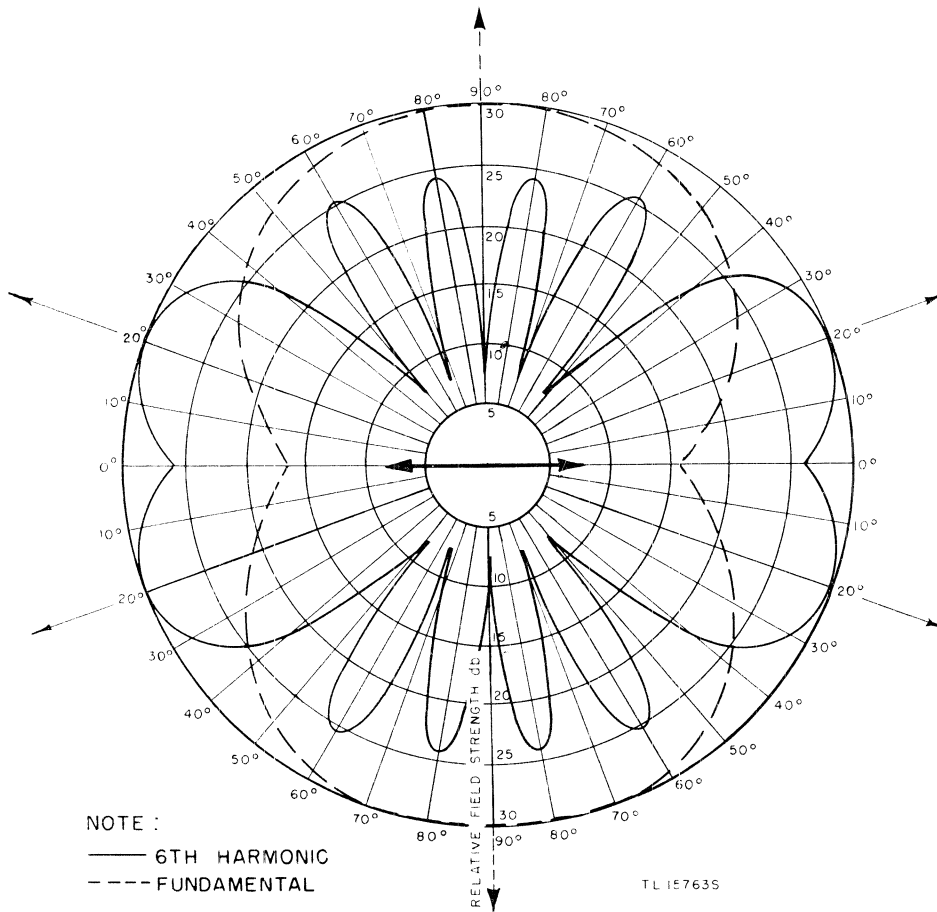
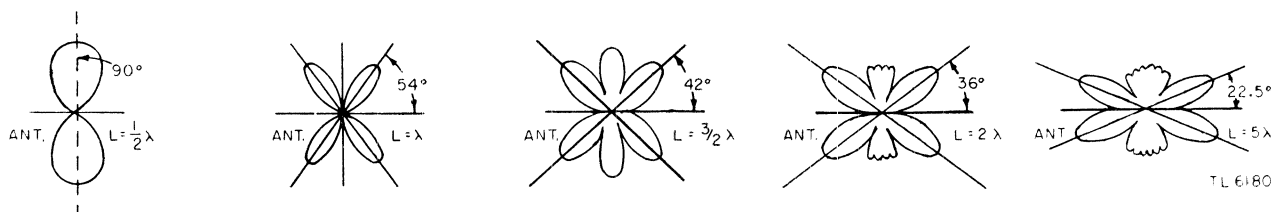

Figure 58. Radiation patterns of half-wave antenna on fundamental and sixth harmonic at radiation angle of 15°.
Figure 59. Free space patterns of long-wire antennas.
g. RADIATION PATTERNS (figs. 58 and 59). The pattern of the half-wave antenna in space is modified when the antenna is brought within proximity of the ground, as stated in *c* above. The radiation angle of any antenna is stated in terms of degrees, and it is that angle, with respect to ground, at which the radiated waves are most intense. It would be a difficult job to predict the exact angle of radiation (the directivity) of a half-wave antenna at any particular location without actually field-testing the antenna and feeder set-up. However, it is possible to get an approximate idea of results to be expected for work over long distances. The radiated patterns of a half-wave antenna operating on its fundamental and sixth harmonic frequencies at a radiation angle of 15° (representing an angle for long distance coverage for 28, 14, and 7 mc) are shown in figure 58. The patterns shown should be interpreted merely as an indication of the results to be expected. As can be seen by figure 58, operating an antenna at its harmonic frequencies changes the characteristics of its radiated pattern. In the case of a doublet antenna (half-wave) with a fundamental operating frequency of 2,500 kc, the same antenna becomes $1\frac{1}{2}$ wavelengths in length at the third harmonic and $2\frac{1}{2}$ wavelengths in length at the fifth harmonic. When the wire is a wavelength or more long, the radiation tends to concentrate more off the ends of the wire and radiates more power in its most favorable directions than a half-wave antenna in its favorable directions. The free space patterns of long-wire antennas are shown in figure 59.